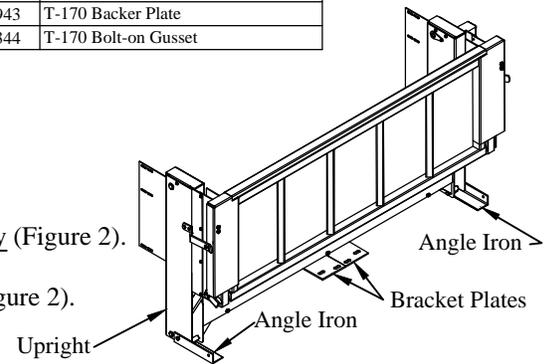

Figure 2: Complete liftgate (G² shown).
4. Unbolt and Save the two (2) angle irons attached to the liftgate uprights- **G² only** (Figure 2).
5. Remove and Save the two (2) bracket plates attached to the liftgate- **G² only** (Figure 2).